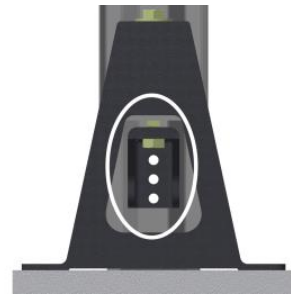

Figure 2: Mark holes of the C-Channel on the legs
4. Mark the holes of the C-channel on the leg and drill using 1/2" drill bit. (Figure 2)